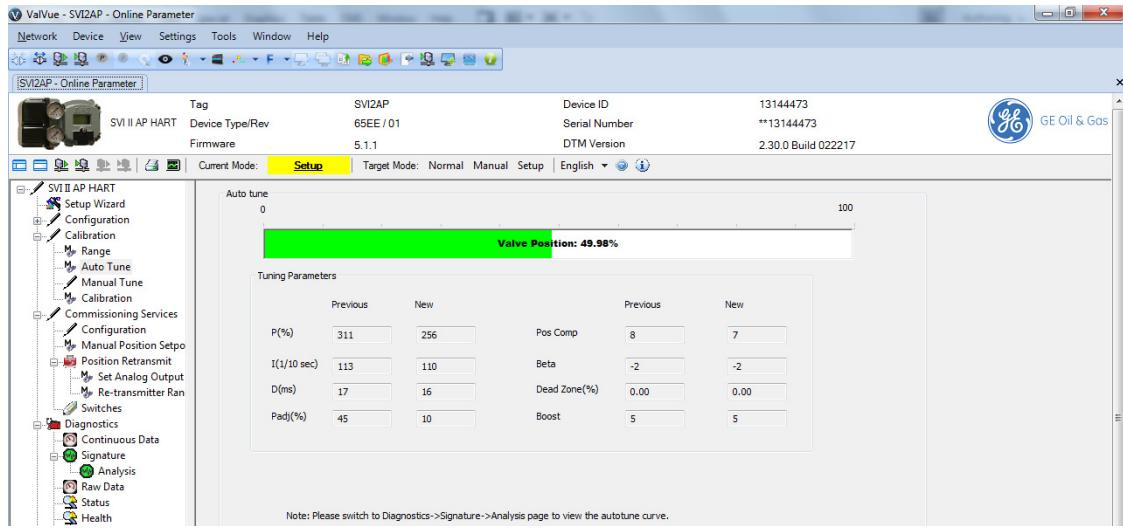

Figure 61 Auto Tune PID Tuning Results
3. Enter a number and click **Continue** and PID tuning runs. Once complete the PID Tuning Results appear (Figure 61).